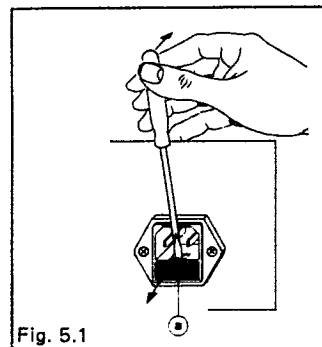

Fig. 5.1
- Remove insert ① (with socket for primary fuse ② and spare fuse ③) using a screw-driver or another suitable tool (Fig. 5.1).
For directions for replacing a fuse refer to 4.1 (Figs. 5.1 and 5.2).